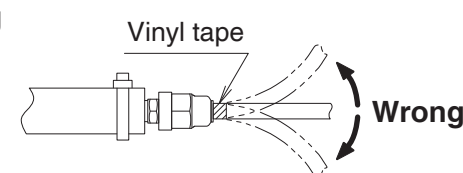

Fig. 14
- Do not apply force horizontally or vertically to the piping to which the flareless joint is connected. (See Fig. 14)